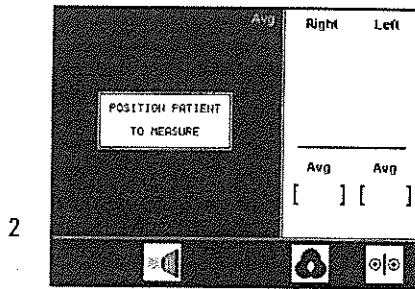
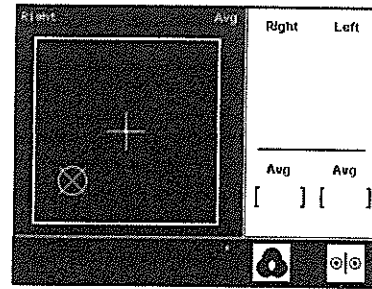

Figure 1
Figure 2
5. Press the MEASURE button (see Figure 1). You will hear the instrument aligning itself to the patient. Once properly aligned, a measurement will be taken.
- NOTE: If the instrument seems to have trouble acquiring the patient's eye during the measurement process (e.g., it keeps aligning but never takes a reading), it may be necessary to ask the patient to: (1) open his/her eyes wider, (2) tilt his/her head toward the instrument, or (3) both instructions
6. Once the measurement sequence has begun, a circular icon will appear and begin to move around the screen as the instrument aligns itself (see Figure 2). If the instrument seems to have trouble acquiring an eye during the measurement process – e.g., it keeps aligning but never takes a reading – it may be necessary to ask patients to: (1) open their eyes wider, (2) tilt their head in toward the instrument, or (3) both instructions.